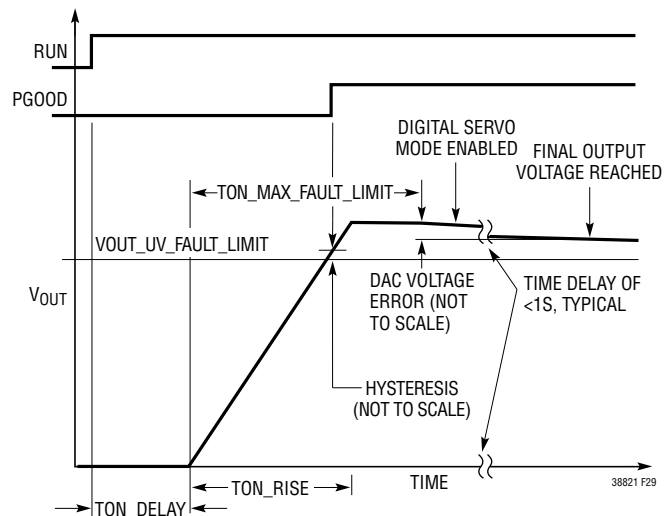
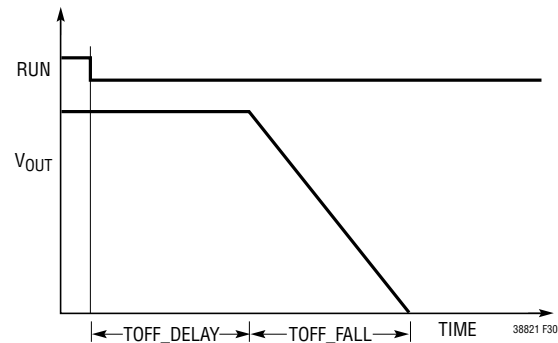
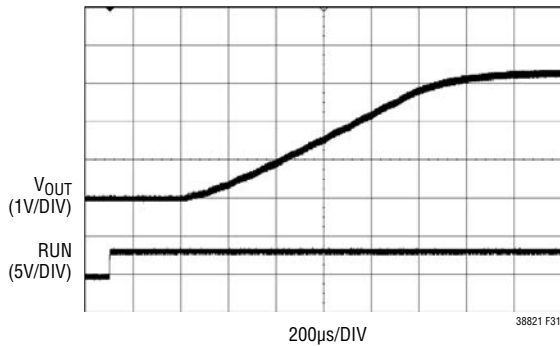

Figure 29. Time-Based  $V_{OUT}$  Turn-On
Figure 30. Time-Based  $V_{OUT}$  Turn-Off
Figure 31. Example of 1ms TON\_RISE
The LTC3882-1  $TON\_DELAY$  and  $TOFF\_DELAY$  commands can be used in combination with the rise and fall time commands covered in the previous section to implement a wide range of versatile sequencing and ramping schemes. The key to time-based sequencing and ramping is the ability of LTC3882-1 master phases to move their outputs up and down according to PMBus command values as shown in Figure 29 and Figure 30.
As shown in Figure 29, it is important to remember that the hysteresis given in the Electrical Characteristics (EC) table applies above  $V_{OUT\_UV\_FAULT\_LIMIT}$ , which specifies the UV limit when the output is falling out of regulation. For turn-on, the output must rise above this programmed limit plus the hysteresis to avoid exceeding  $TON\_MAX\_FAULT\_LIMIT$ .  $PGOOD$  is indicated at that point. For this reason,  $V_{OUT\_UV\_FAULT\_LIMIT}$  should be more than 27mV below the programmed output voltage in low range and more than 54mV below  $V_{OUT}$  in high range. There is a fixed delay and other timing uncertainty associated with all changes in output voltage controlled by the LTC3882-1. A nominal fixed timing delay of 270 $\mu$ s exists to process any change in output voltage, including soft start/stop, margining and general changes in  $V_{OUT\_COMMAND}$  value. The start of all time-based output operations occur with an uncertainty of  $\pm 50\mu$ s and have a nominal step resolution of 100 $\mu$ s. This means the minimum  $TON\_DELAY$  or  $TOFF\_DELAY$  that the LTC3882-1 can produce will range from 220 $\mu$ s to 320 $\mu$ s, not including basic oscillator tolerances. For software-based output changes (e.g., margining), this algorithmic delay begins when the STOP bit is received on the serial bus. An example of this minimum turn on/off delay and step-wise output control can be seen in Figure 31, where  $TON\_DELAY = 0$ s and  $TON\_RISE = 1$ ms.
Digital servo mode then engages after TON\_MAX\_FAULT\_LIMIT has expired as shown in Figure 29, unless that limit is set to 0s (infinite). In that case, the mode is engaged as soon as the above conditions are satisfied.